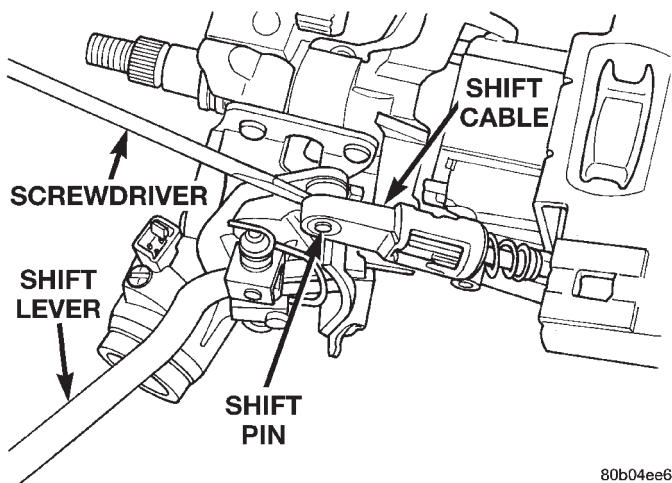

Fig. 17 Cable Removal From Shift Pin
(6) Remove cable from shift pin (Fig. 17).